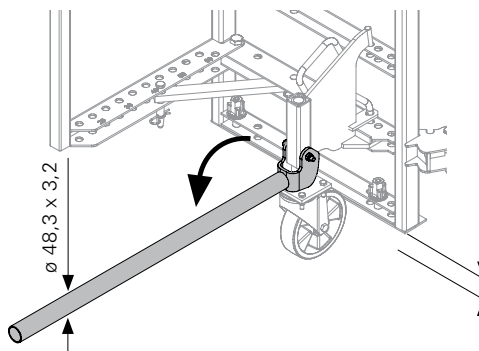

Fig. A5.05
- The formwork is raised and the tube supports are in a horizontal position. (Fig. A5.05)
- Use a scaffold tube or tie rod. (Fig. A5.05)